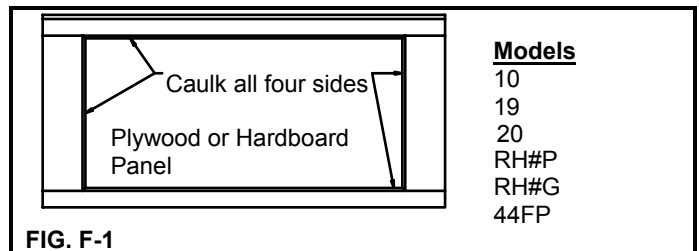
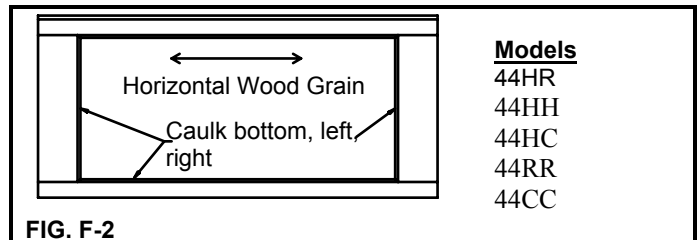

FIG. F-1
FIG. F-2
NOTE: For optimum long lasting performance the spaces between the rails or stiles and the door panel should be caulked with a paintable caulk prior to painting the door. For plywood and hardboard panel doors, all (4) sides of each panel should be caulked (Fig. F-1). For hemlock, cedar, or redwood panel doors with wood grain running horizontally, the bottom, left, and right sides of the panels should be caulked (Fig. F-2). For hemlock, cedar, or redwood panel doors with wood grain running vertically, the top and bottom of the panels should be caulked (Fig. F-3).
NOTE: For optimum long lasting performance on a stained door, the spaces between the rails or stiles and the door panel should be caulked with a clear silicone caulk after staining the door. For plywood and hardboard panel doors, all (4) sides of each panel should be caulked (Fig. F-1). For hemlock, cedar, or redwood panel doors with wood grain running horizontally, the bottom, left, and right sides of the panels should be caulked (Fig. F-2). For hemlock, cedar, or redwood panel doors with wood grain running vertically, the top and bottom of the panels should be caulked (Fig. F-3).